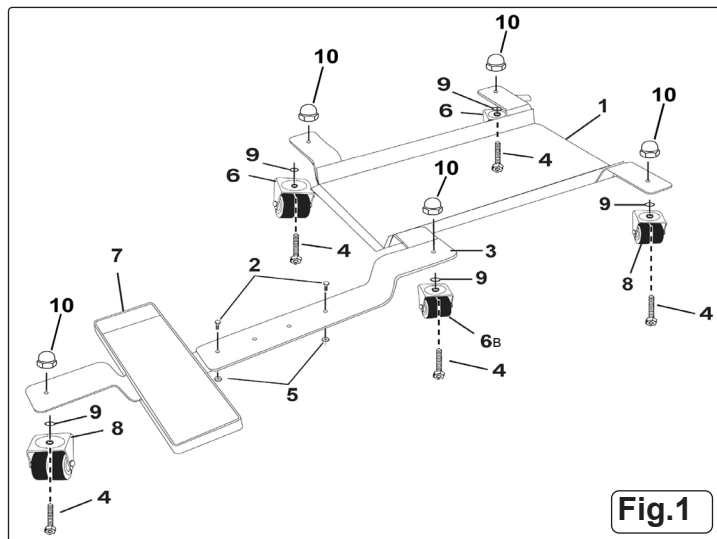

Fig.1
- 4.1. Remove with care all contents from outer packaging, check parts against attached parts list. Place Platform For Arm (1) on ground attach 2 x Swivel Castors with c/w Brake (8), Socket Cap bolt (4), Flat Washers (9), and Nyloc Nut (10). See fig.1. for illustration.